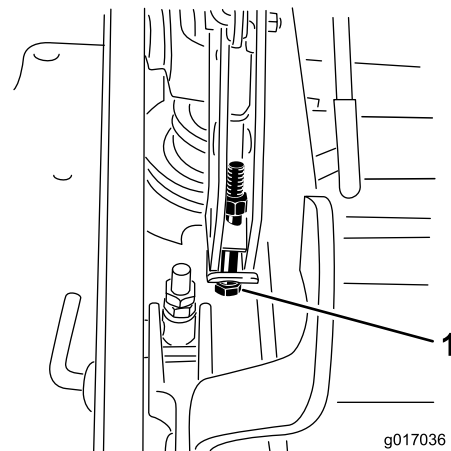

Figure 98
14. If the deck is too low, tighten the single point adjustment bolt by rotating it clockwise. If the deck is too high, loosen the single point adjustment bolt by rotating it counterclockwise (Figure 98).